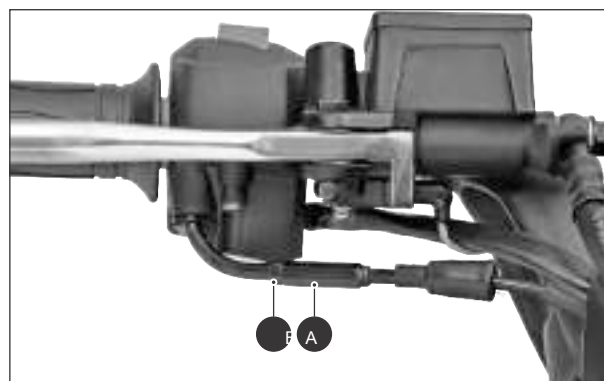

Fig. 2.71
- Gently pull the throttle cable while holding the adjuster (A) to check the free play. (Fig. 2.71) If the free play is more or less adjust as follow: